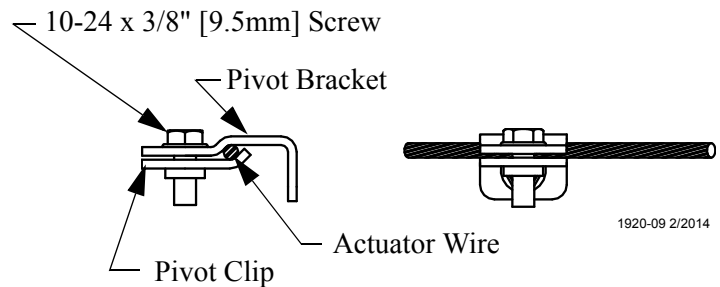

Figure 68. Clamping to actuator wire
2. Manual/Automatic switch in the manual position. Manually operate one actuator at a time running the actuator to the retracted (Open) position, **see figure 68**.